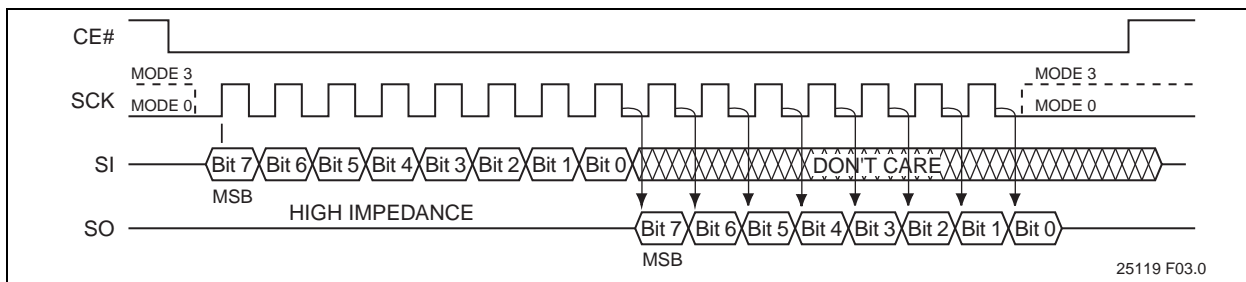
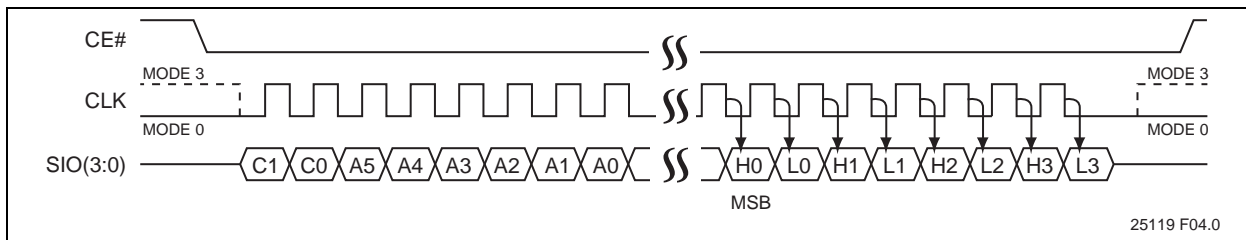

FIGURE 4-1: SPI PROTOCOL (TRADITIONAL 25 SERIES SPI DEVICE)
FIGURE 4-2: SQI SERIAL QUAD I/O PROTOCOL
bus master is in stand-by mode and no data is being transferred. The SCK signal is low for Mode 0 and SCK signal is high for Mode 3. For both modes, the Serial Data I/O (SIO[3:0]) is sampled at the rising edge of the SCK clock signal for input, and driven after the falling edge of the SCK clock signal for output. The traditional SPI protocol uses separate input (SI) and output (SO) data signals as shown in Figure 4-1. The SQI protocol uses four multiplexed signals, SIO[3:0], for both data in and data out, as shown in Figure 4-2. This means the SQI protocol quadruples the traditional bus transfer speed at the same clock frequency, without the need for more pins on the package.